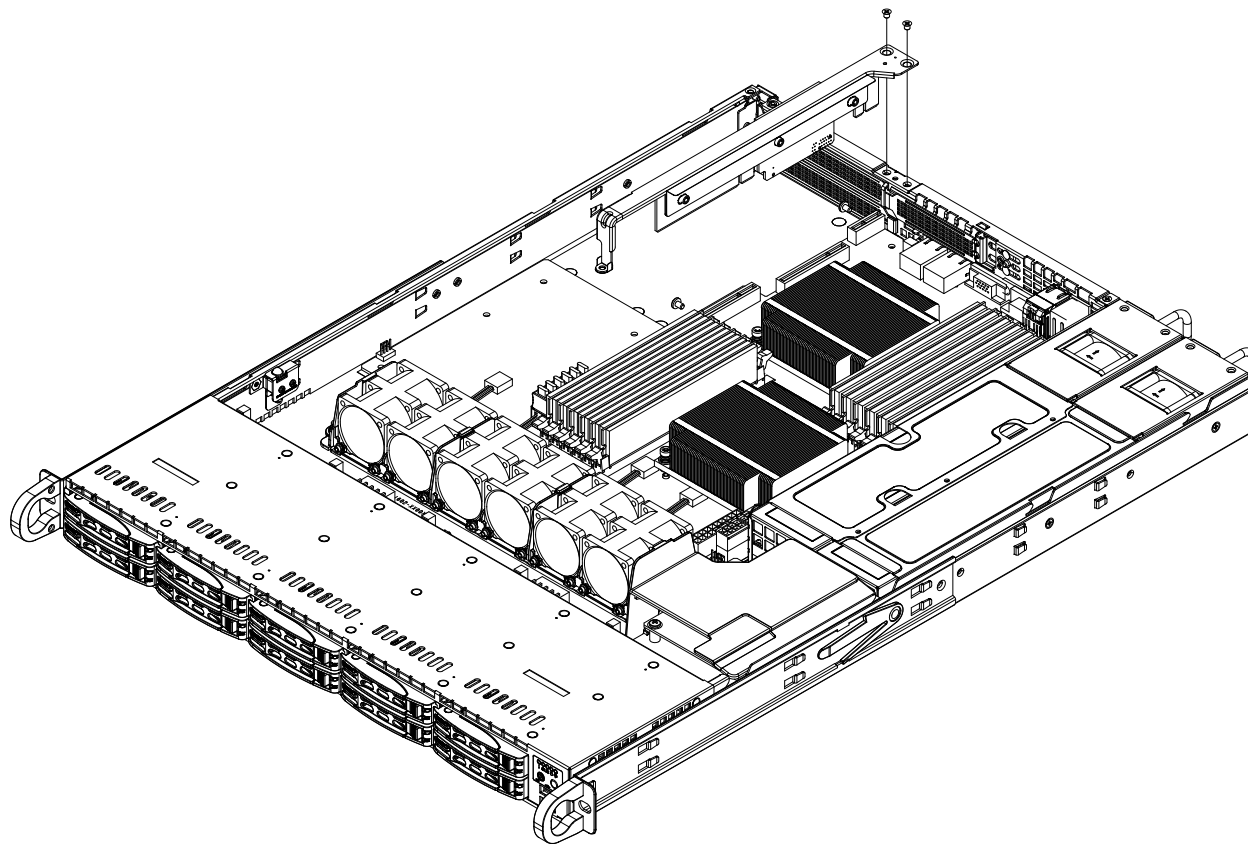

Figure 3-1. Removing the Riser Bracket
1. Remove the riser card bracket from the chassis by unscrewing only those screws indicated by the screwdriver icon as illustrated in Figure 3-1.